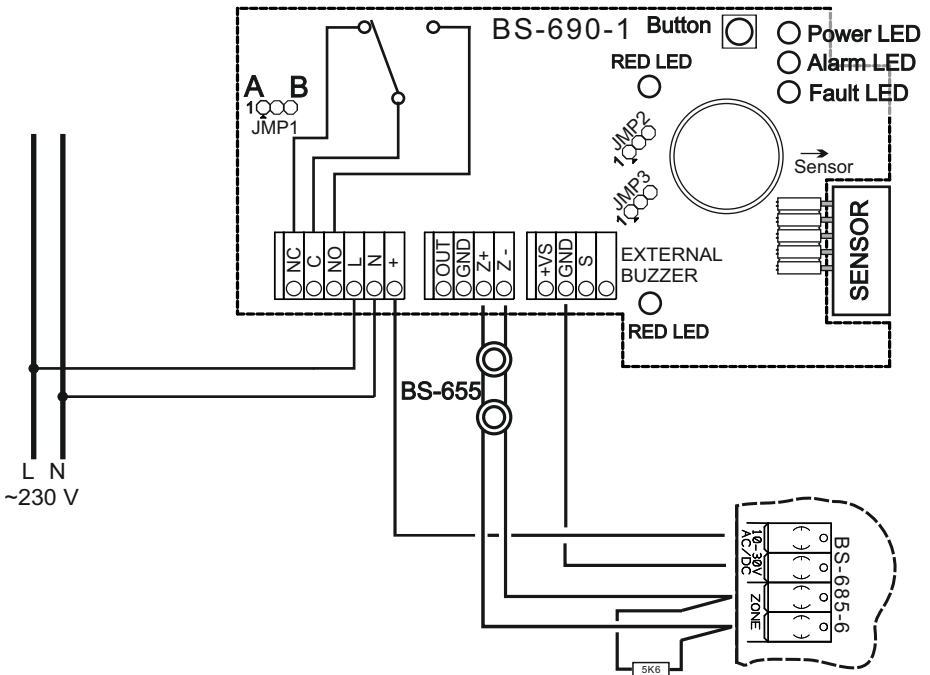

Figure 5. Connection diagram with BS-690 (no alarm latch mode)
- B) You push the test button or the gas content drops below 5-15% of the L.E.L. (No alarm latch mode) (figure 5).